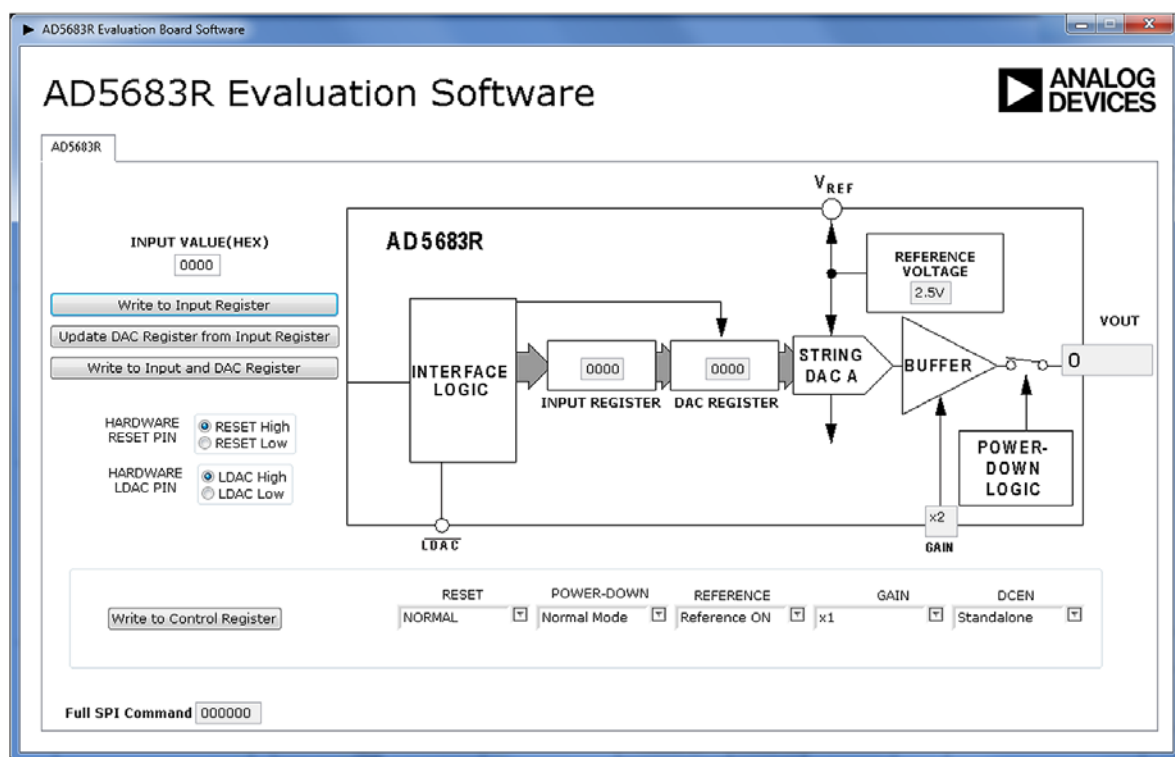

Figure 5. AD5683R Evaluation Board Main Window
5. The main window of the AD5683R evaluation software then opens, as shown in Figure 5.
The AD5683R main window opens, as shown in Figure 5. The data programmed into the input register is displayed. You can update the command bits and the data bits by clicking the appropriate button under each area.